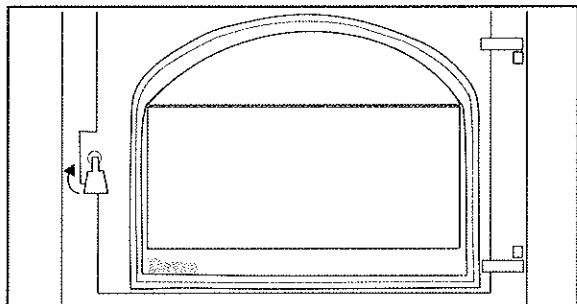

Figure 19
1. To gain access into the heater firebox, turn the handle of the cast door clockwise and open. See Figure 19.